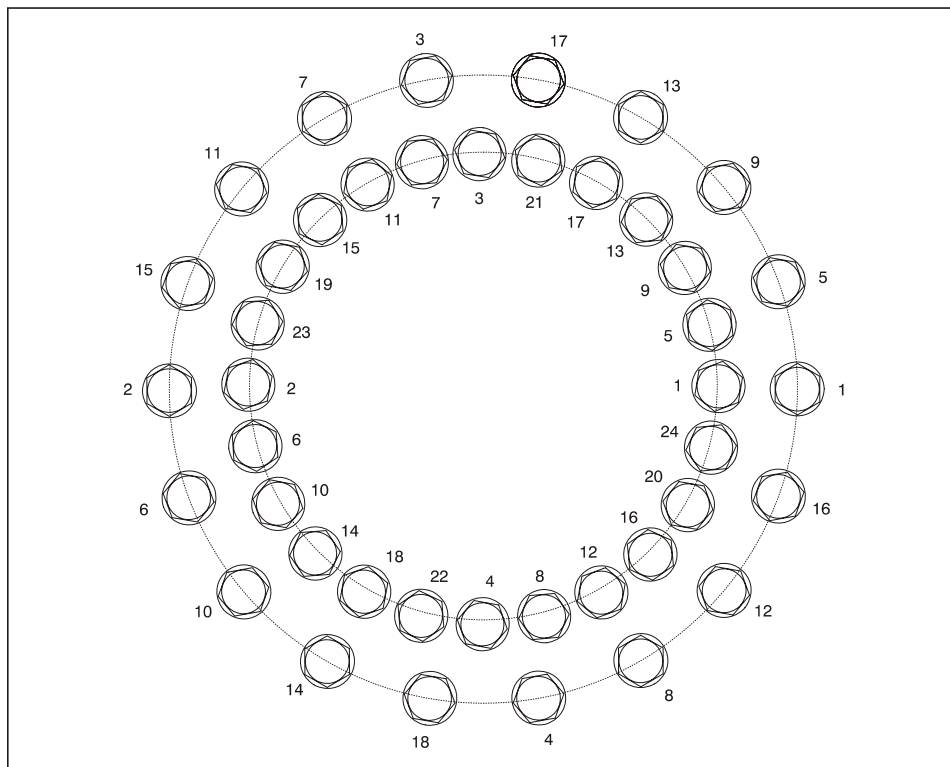

Figure 3-15. Swing Bearing Torquing Sequence
- b. Line up high spot (blue) of bearing with center tooth of worm gear. Set backlash to 0.008 - 0.010 inch (0.20 - 0.25 mm). Tighten capscrews as shown in Figure 3-15., Swing Bearing Torquing Sequence.
- g. Following the torque sequence diagram shown in Figure 3-15., tighten the bolts to an initial torque of 130 ft. lbs. (175 Nm). Then following the same sequence, tighten to a final torque of 190 ft. lbs. (260 Nm).
- l. Following the torque sequence shown in Figure 3-15., tighten the bolts to an initial torque of 130 ft. lbs. (175 Nm). Then following the same sequence, tighten the bolts to 190 ft. lbs (260 Nm).